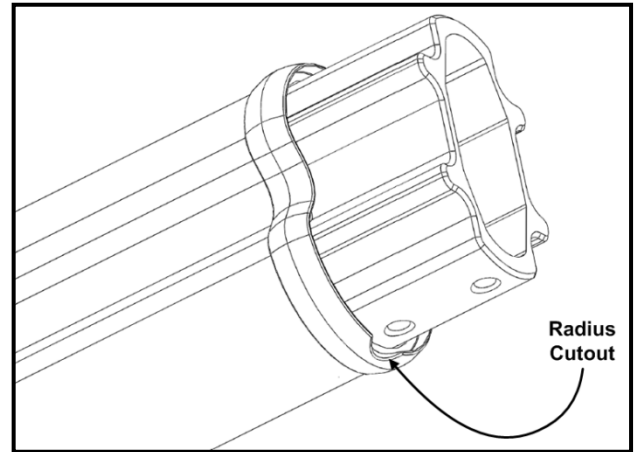

Fig. 10
10. Slide on the second set of beauty rings (Fig.10) onto each upper handrail while making sure the radius cutouts clear the available threaded holes.